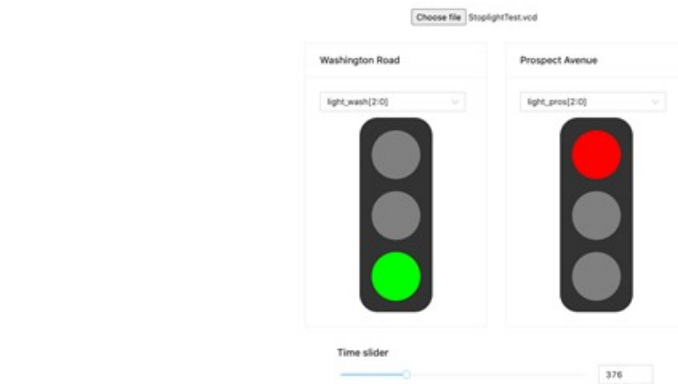

Figure 4.3: Example of an output from vcd viewer.
4. Use the Time slider to check your traffic lights are changing correctly with the correct order, intervals and colors. Your viewer should look like Fig. 4.3 after the above steps (the name of your vcd file and time may be different).